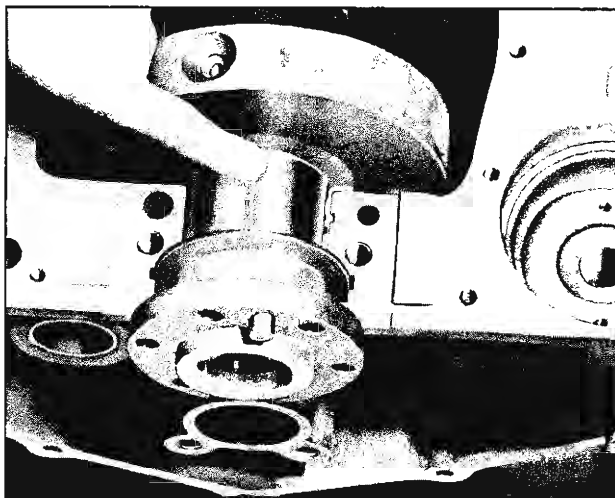

Fig. 164—Plastigage on Journal
2. Place a piece of Plastigage the full width of the bearing (parallel to the crankshaft on the journal) (fig. 164).